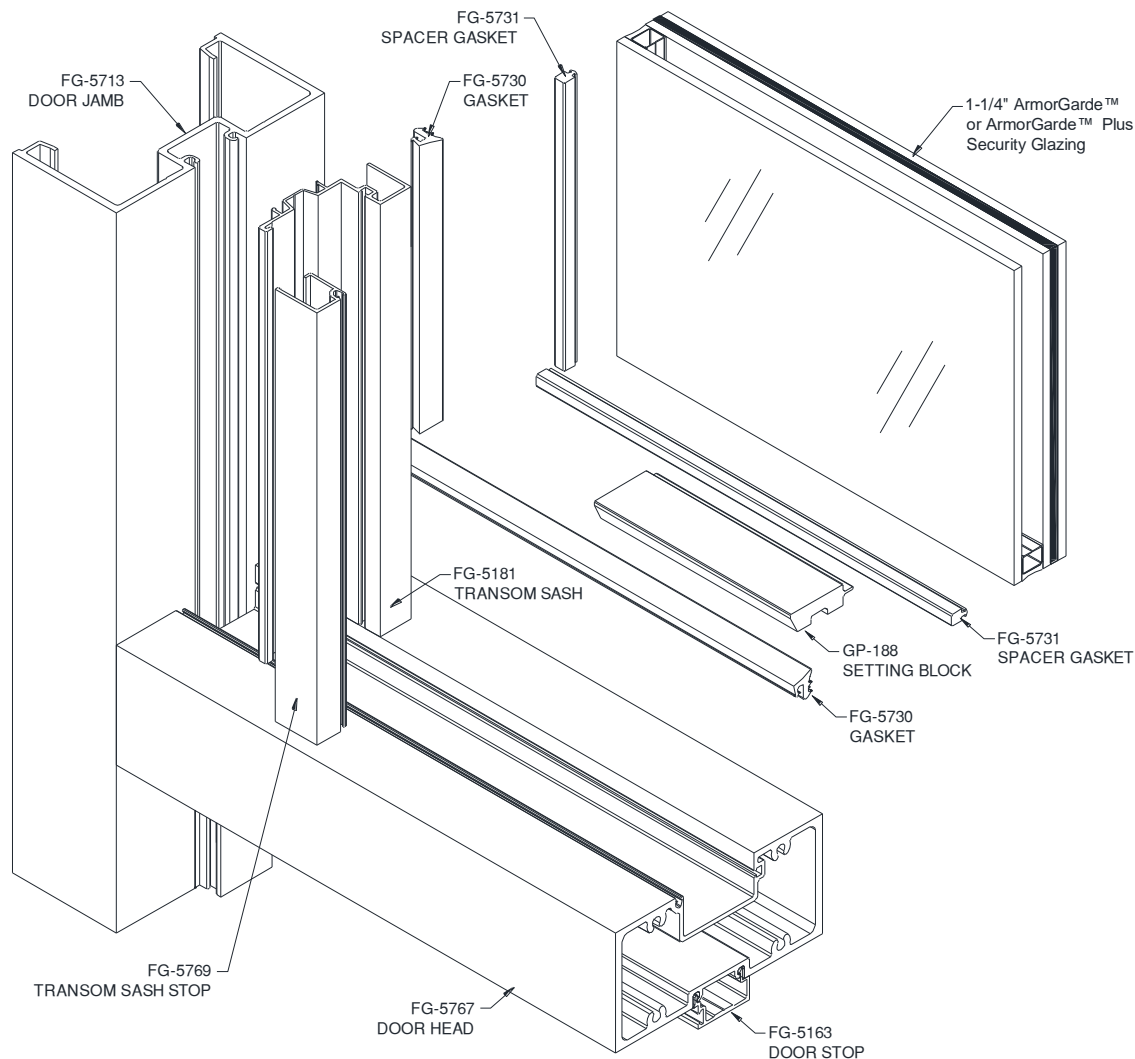
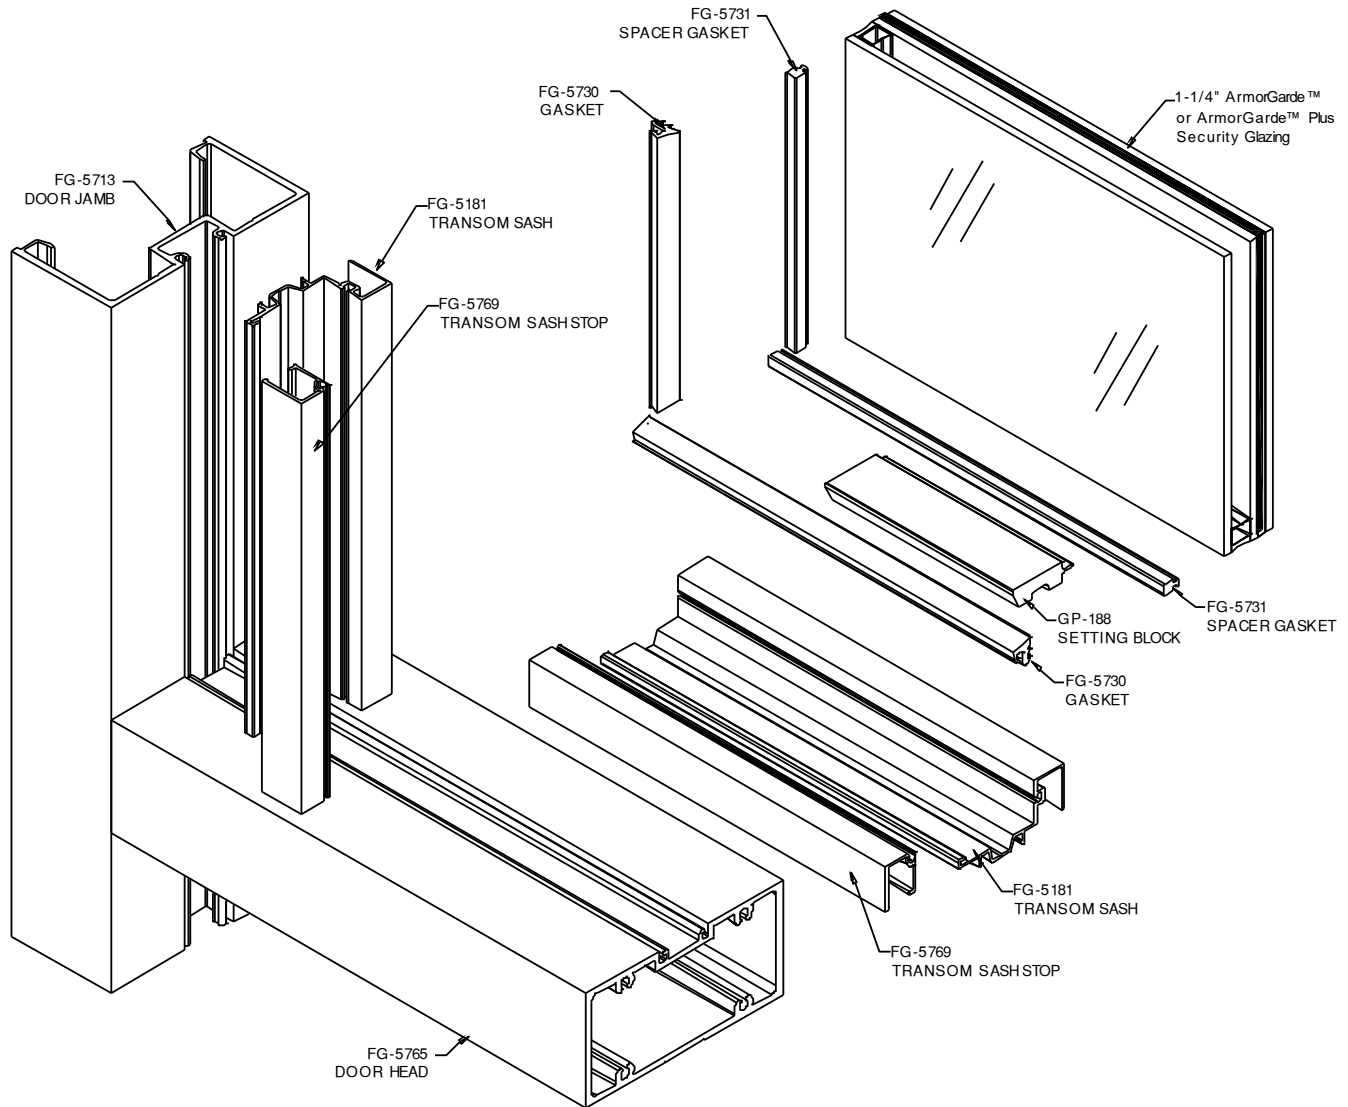

Figure 31: ArmorDefend™ Plus Wet Glaze Assembly at Transom for FG-5767 Door Head
Figure 32: ArmorDefend™ Plus Wet Glaze Assembly at Transom for FG-5765 Door Head
- 13.1.1.5 Install **GP-188** Setting Block at quarter points of each lite or as specified by glass manufacturer. Full Wet Glaze assembly is shown in *Figure 31* and *Figure 32*.